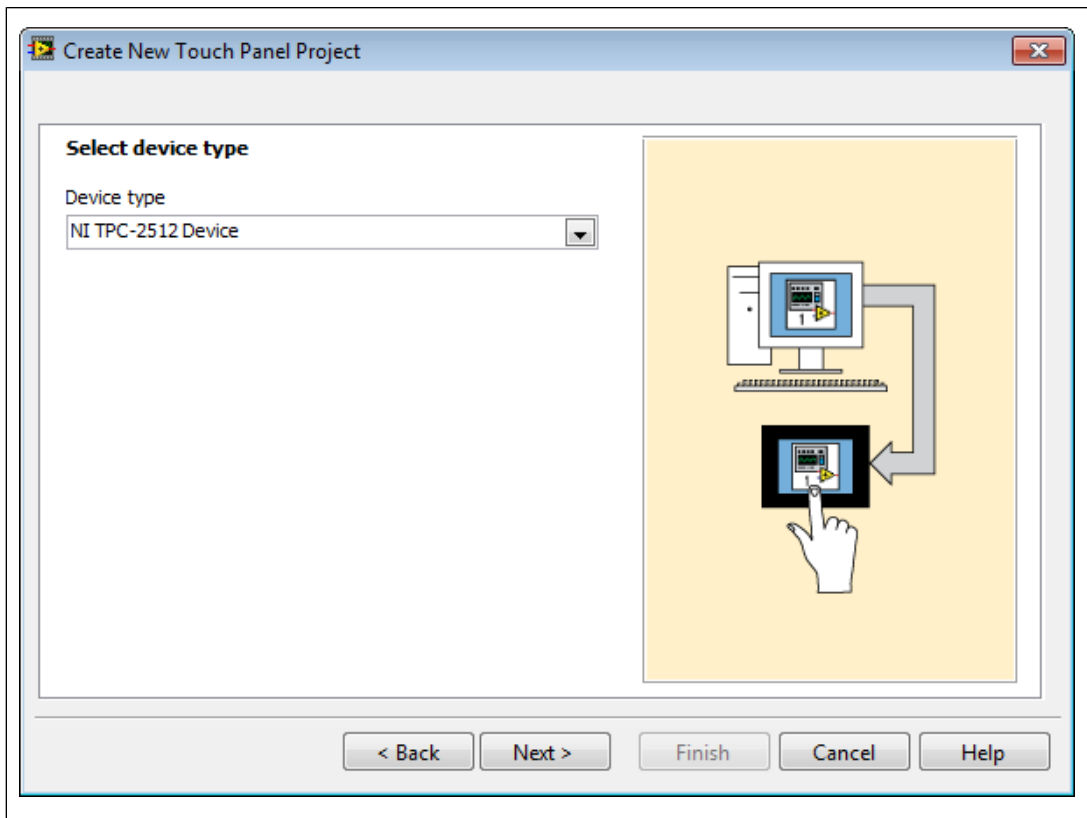

Figure 12. Selecting the Target
4. Select **NI TPC-2512 Device** from the **Device type** pull-down menu, as shown in Figure 12.